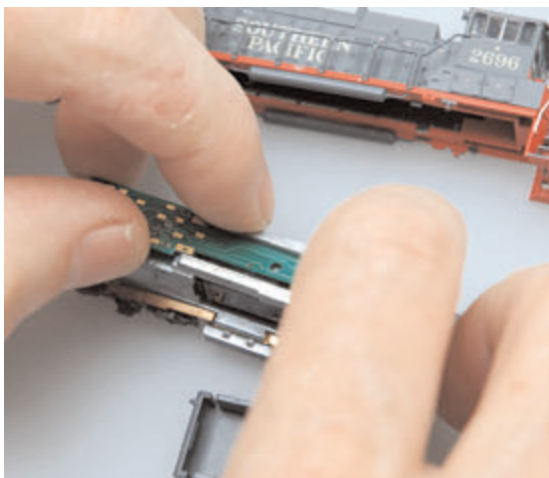

Figure 2. DCC Decoder installation
3. Installation of the DN163A3 decoder is the reverse of the removal sequence. With the frames halves still loosened, slide the DCC decoder into position as shown. (*Figure 2*)